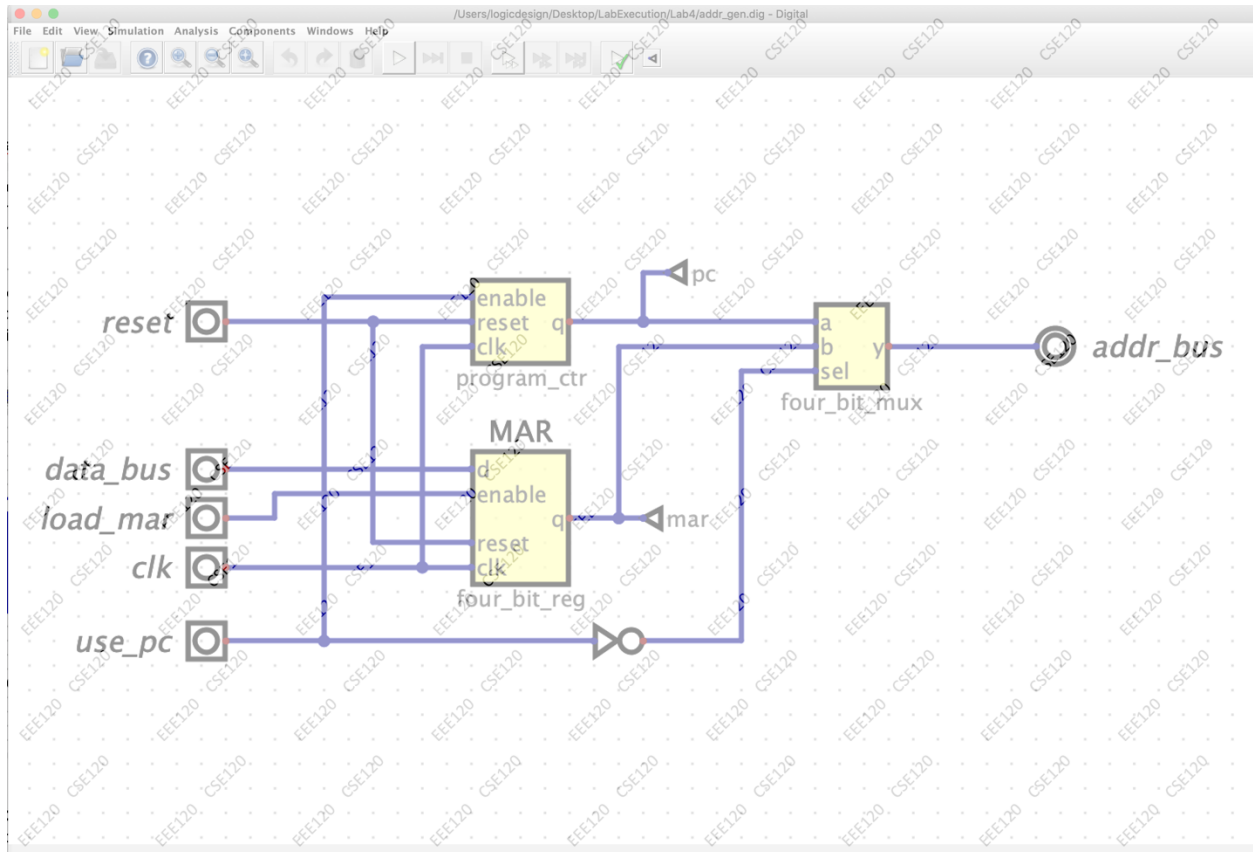

Figure 1. The Memory Address Generation circuit.
Now that your brainless microprocessor is working, we will add additional pieces of circuitry to it and assemble the complete microprocessor. The first step is to modify the 4-bit incrementer you built in Task 3-2 so that you can use it to generate the memory addresses for your CPU. The memory address generation circuit is shown in Figure 1. The memory address generation circuit is comprised of two independent pieces. One piece consists of a register and increment circuit, which is your 4-bit incrementer, and is known as the Program Counter (PC). The other piece, which accepts addresses from the data bus, is known as the Memory Address Register (MAR). This register can be loaded from the data bus and holds the address of a storage location that we want to access. This address does not have to be in sequence with the other addresses. Thus, the MAR allows us to access a specific address and that address is usually obtained from our RAM. In order to load the memory address from the **data_bus** to the MAR, we have an enable signal that is called **load_mar**. The output of the address generation circuit is generated by a mux, which controls whether the PC or MAR drives the address bus, **addr_bus**. The control input to the mux, **use_pc** (short for Use Program Counter), is high when the PC values are driving the address bus and low when the MAR contents are to be supplied to the address bus.
Open Digital and select File->New and File->Save As and name the circuit **addr_gen**, making sure it is saved in the Lab4 folder. Then build the circuit shown in Figure 1 using the circuits you built in prior labs plus an inverter. Note that the **data_bus** input and the **addr_bus** output are 4-bits wide. And remember to use the \ in front of underscores when entering the labels. For